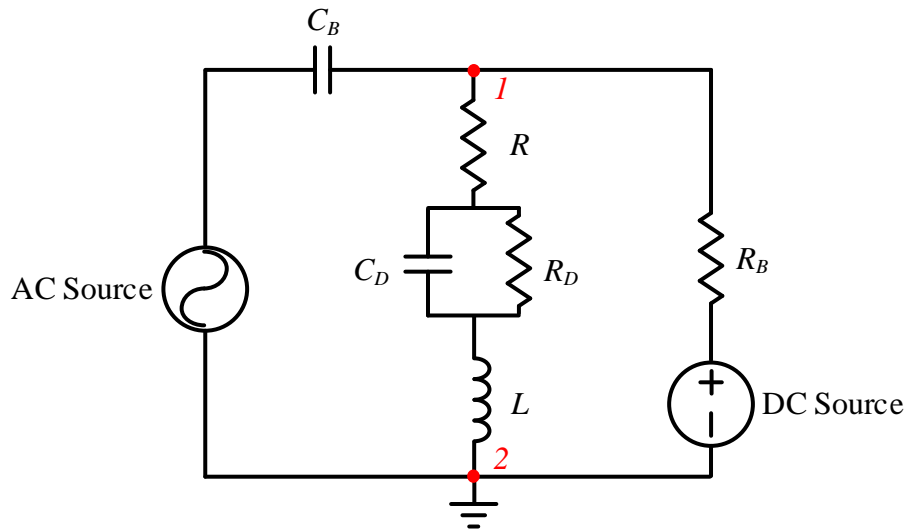
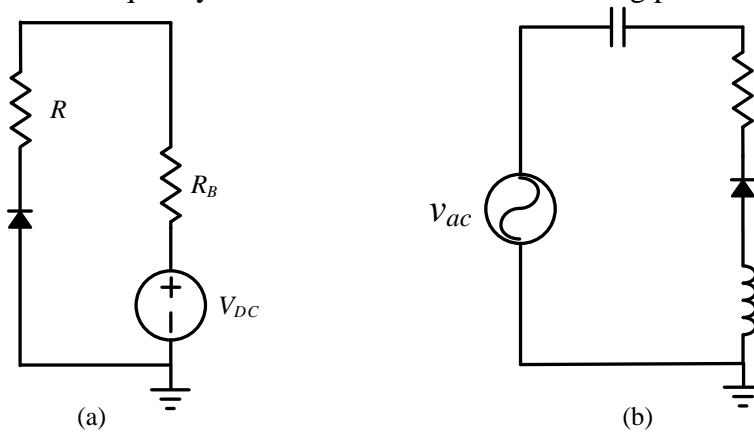

Figure 1. Experimental set-up with the diode replaced with its RC diode model
Figure 2. (a) DC equivalent circuit; (b) AC equivalent circuit.
An example of such a design is now presented, but a different design for achieving this task is also welcomed. The circuit chosen appears in Figure 1. **The diode is replaced with a parallel combination of a resistor and a capacitor for analysis (but not for measurements).** The ac and dc equivalent circuits are shown in Figure 2.
Ignoring the small R_D , If we calculate the total impedance of the RLC combination from point (1) to point (2) in Figure 1, taking into account both the real and imaginary parts, we get,